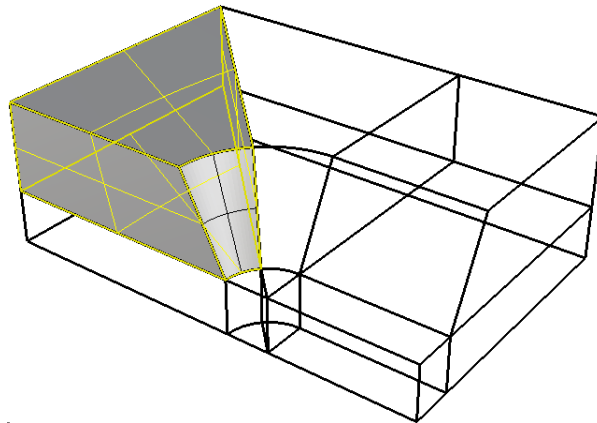

Figure 70: Completing the first solid
12. While the two **borders** are still highlighted, **Delete** them. You now have the **two** initial **surfaces** and a **polysurface** representing the lateral walls of the solid you want to build. Select the **two** surfaces and the **polysurface** and **Edit|Join** to complete the creation of your first solid (Figure 70).